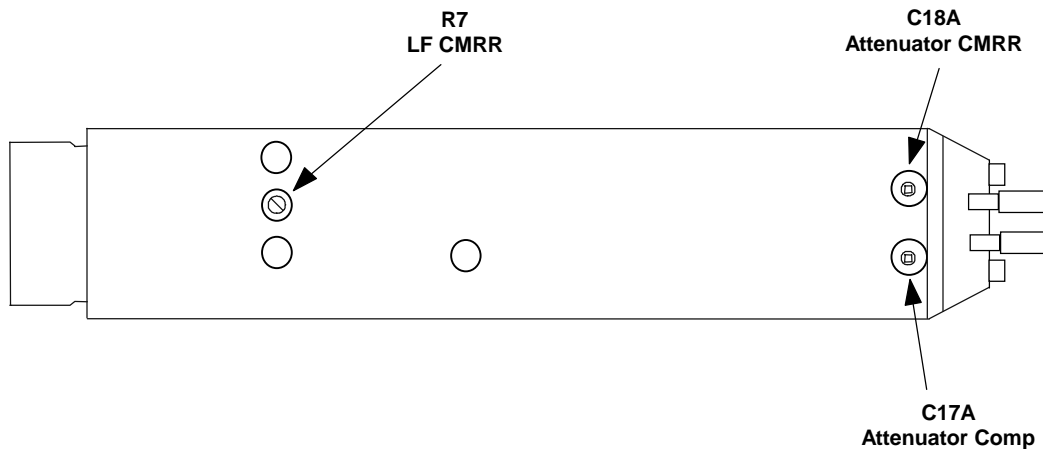

Figure 12. Probe Tip Adjustment Locations
11. Adjust **LF CMRR (R7)** for minimum amplitude. (See Figure 12 for location.)
7. Using the 0.25 in. square adjustment tool, adjust **Attenuator Comp** (C17A) for a flat top waveform. (See Figure 12 for adjustment location.)